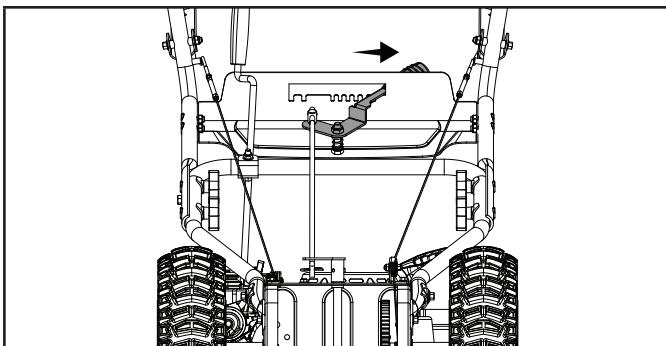
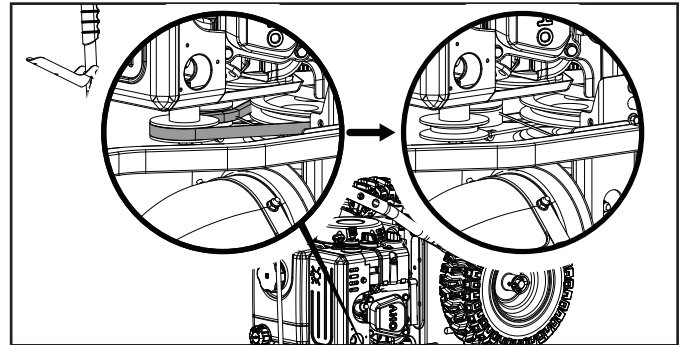

Figure 26A
Figure 26B
6. Slide the speed adjusting handle to the right (Fig. 26A) and remove the loose belt by cutting it or any remaining belt pieces if the belt has already broken (Fig. 26B). If cutting the belt be careful of the tensioning pulley and arm as they are spring loaded and could cause injury when the belt is cut.